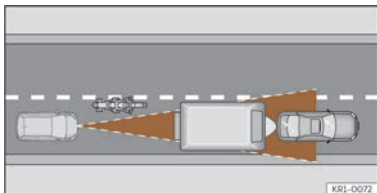

Fig. 136 Motorcyclist ahead out of range of the radar sensor.
- Vehicles that are not aligned while driving or that are outside the sensor's detection area, such as motorcycles >>> **Fig. 136**.